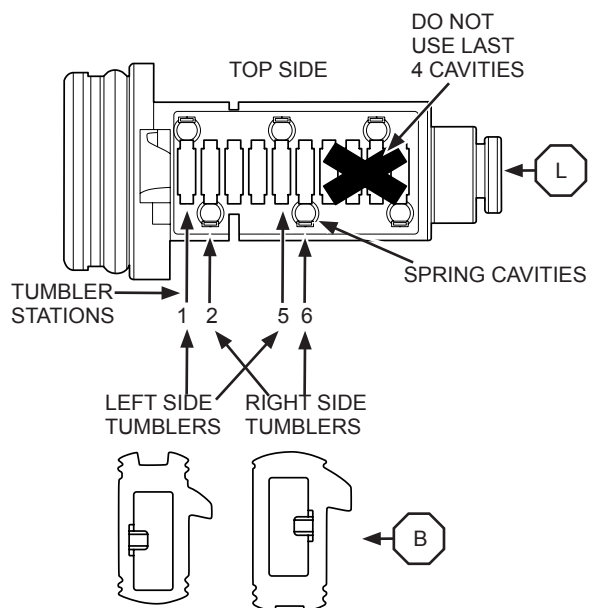

FIGURE 3
3. Insert the spring into the cavities in the cylinder for stations 1-2-5-6 (top-side), then insert the required Tumblers (B1-B10) into the tumbler slots in the proper orientation (Figure 3) and in the sequence that match the key cut depths.